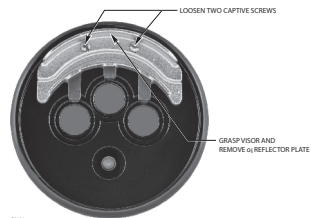

Figure 19—**oj** Reflector Plate Removal
2. Loosen the two captive screws, then grasp the **oj** reflector plate by the visor and remove it from the detector. See Figure 19.